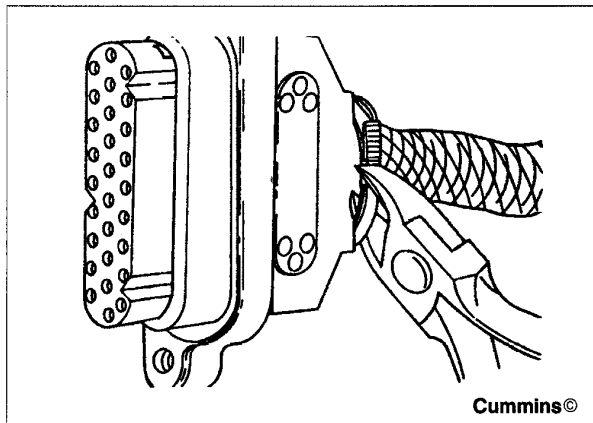

Figure 80 Cut Plastic Wire Tie
1. With International C263 removed from the electronic control module (ECM), cut and remove the plastic wire tie that holds the cover to the connector body (Figure 80).